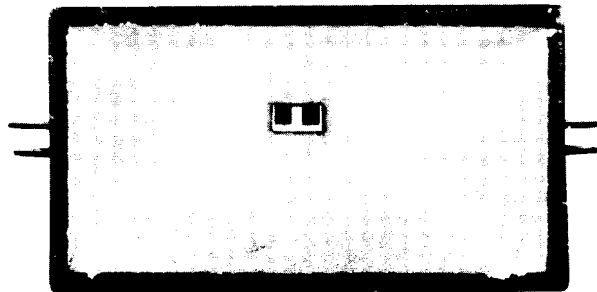

Figure 2-1. Antenna AN/A-25 (10,000 - 40,000 Mc)
d. Place the ridged wave guide insert in the wave guide with the tapered end pointing away from the detector and with the flat side oriented toward the detector output jack. Using the plain wooden tool, push the insert into the wave guide until the thin, tapered edge is flush with the junction of wave guide and horn. See figure 2-1.